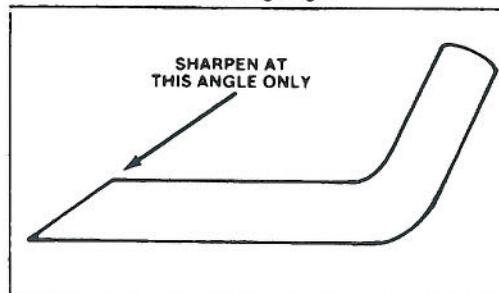

Figure 21
6. SHARPENING BLADE — Using a file, sharpen top side of blade and maintain original cutting angle (Fig. 21). The blade will remain balanced if same amount of material is removed from both cutting edges.